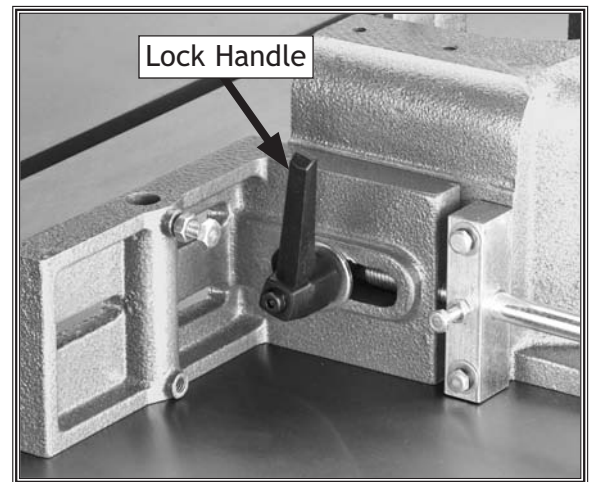

Figure 12. Fence bracket secured with lock handle.
5. Use the lock handles to secure the fence brackets to the guard, as shown in **Figure 12**.